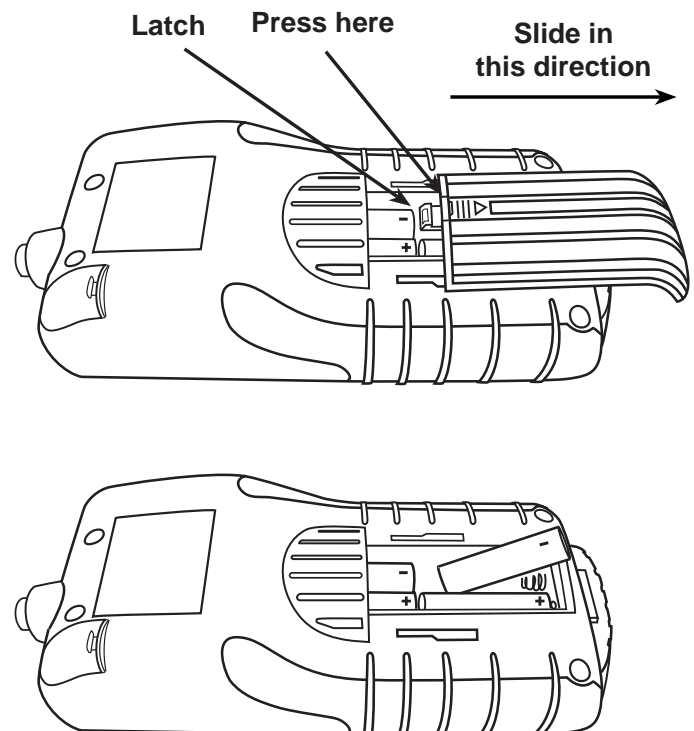

Figure 22: Battery Replacement
5. Insert new batteries as shown in *Figure 22*. Make sure the positive and negative terminals are positioned correctly.